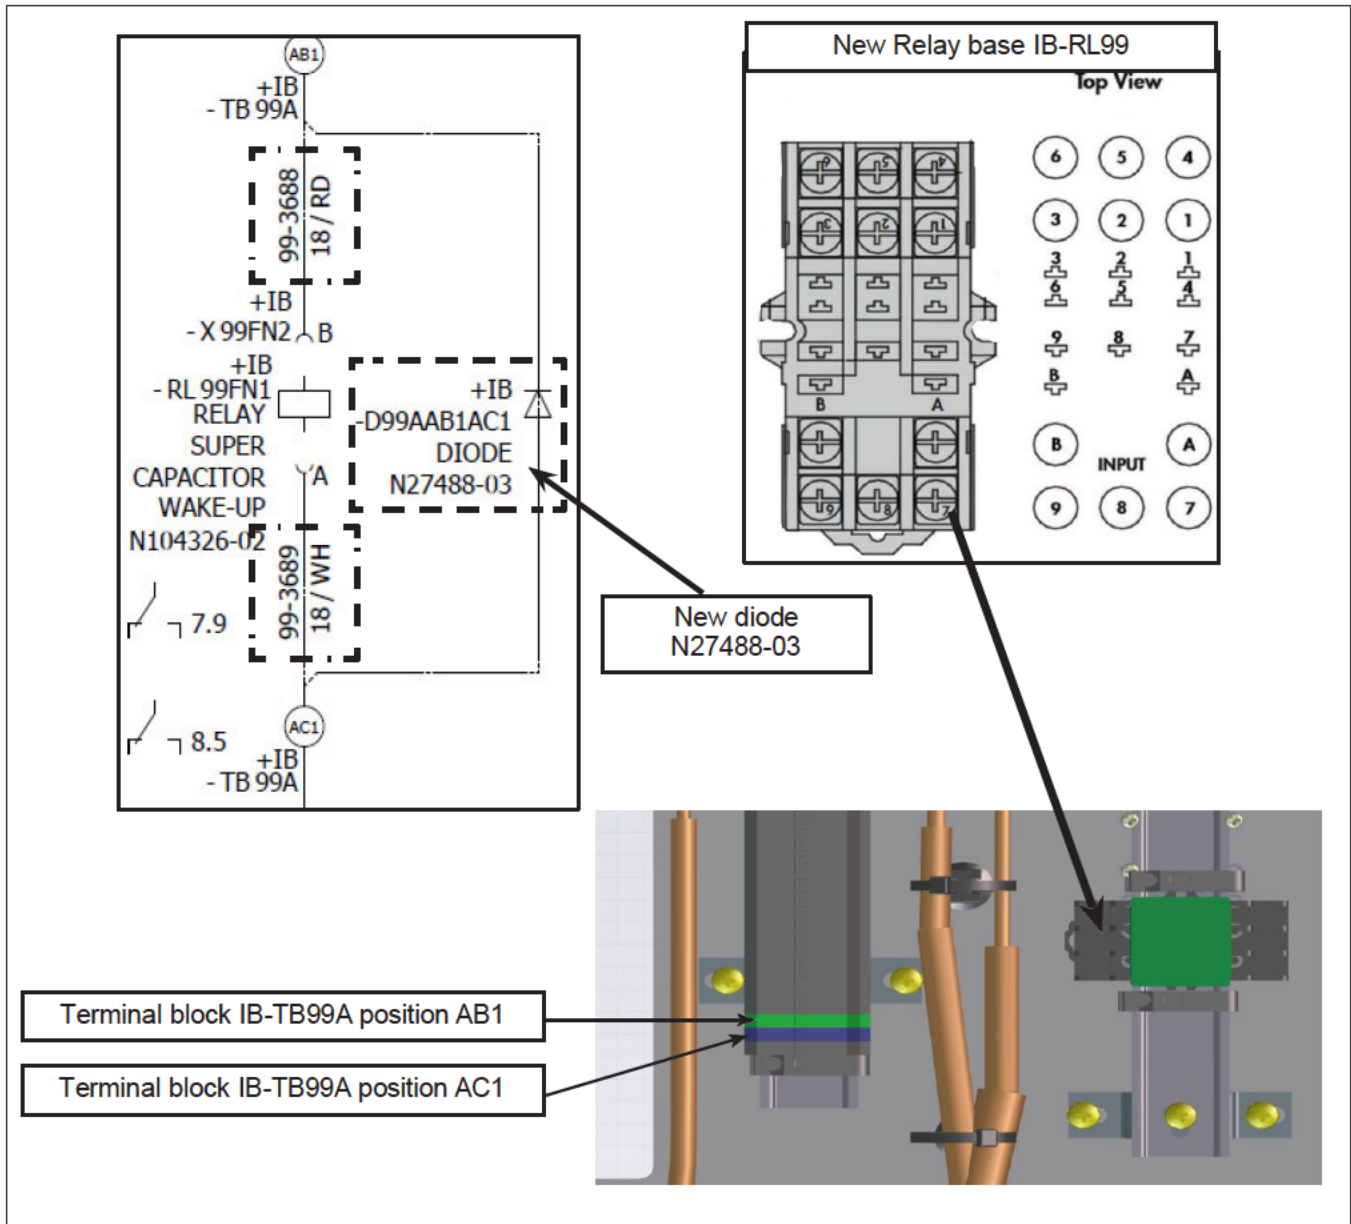

Figure 6 - N27488-03 Diode, New Wires 99-3688 and 99-3689 Installation
- 1.15. Connect wire 99-3688/RD (available in wire kit N632001301) in terminal block IB-TB99A and new relay base IB-X99FN2 (N49576175 circuit breaker ass). See Figure 6.
- 1.16. Connect wire 99-3689/WH (available in wire kit N632001301) in terminal block IB-TB99A and new relay base IB-X99FN2 (N49576175 circuit breaker ass). See Figure 6.
- 1.17. Install Diode N27488-03 in terminal block IB-TB99A. See Figure 6 for position.